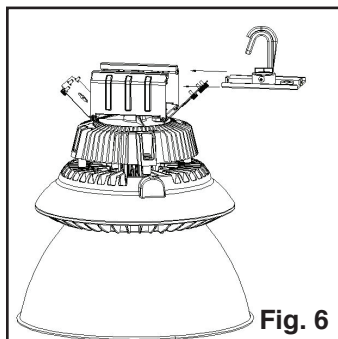

Fig. 6
6. Push the top cover of the tube into the groove on both sides of the junction box. Insulate and connect the electricity and close the side plates. Please refer to Figure 6.